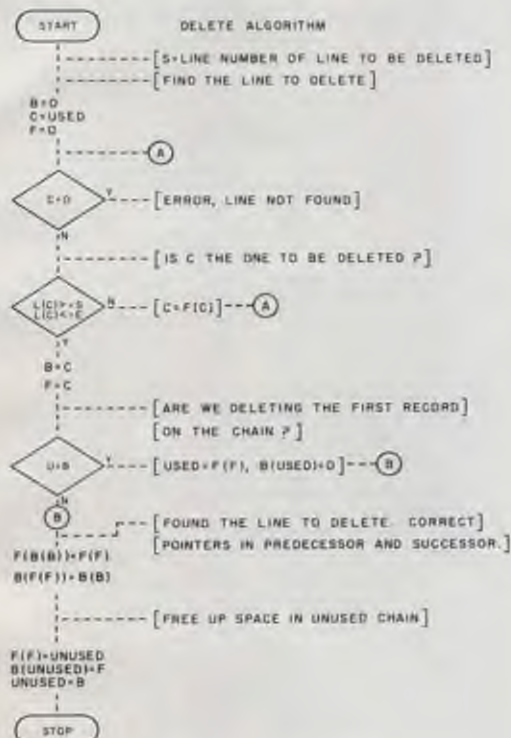

Fig. 8. Delete algorithm.
**DELETE.** Fig. 8 shows the algorithm for deleting a line from the data set. The first step is to locate the slots in the data set where pointers will change. To do this, the program searches the used chain of the data set and sets up the variables B and F to key slots.